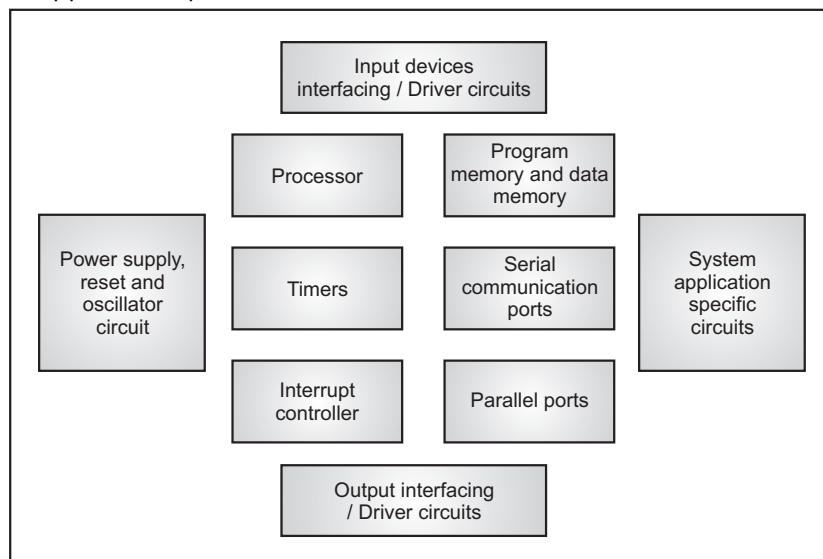

Fig. 1.1: Block diagram of Embedded system
- The block diagram of embedded systems is shown in Fig. 1.1.
- As shown in Fig. 1.1, embedded system consists of processor, program memory, data memory, processor, power supply, parallel ports, serial communication ports, I/O interfacing devices and application specific circuits.